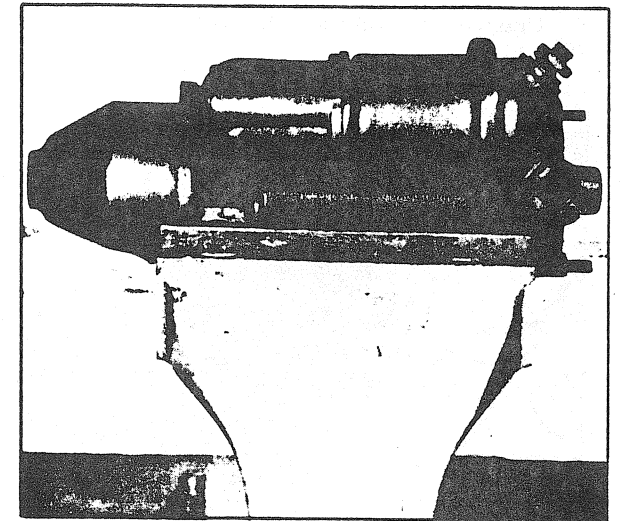

FIGURE 2
- Clamp the starter (field housing end) between two (2) pieces of wood in a bench vise (Fig. 2).